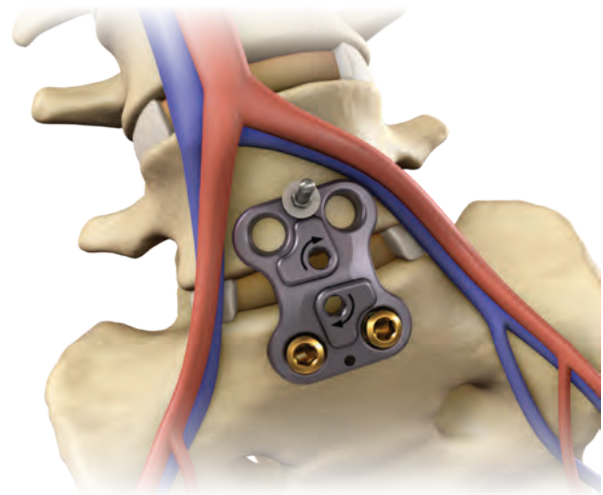

Figure 23:
- Once both the screws have been provisionally placed, remove the plate holder/guide tube assembly (Figure 23).